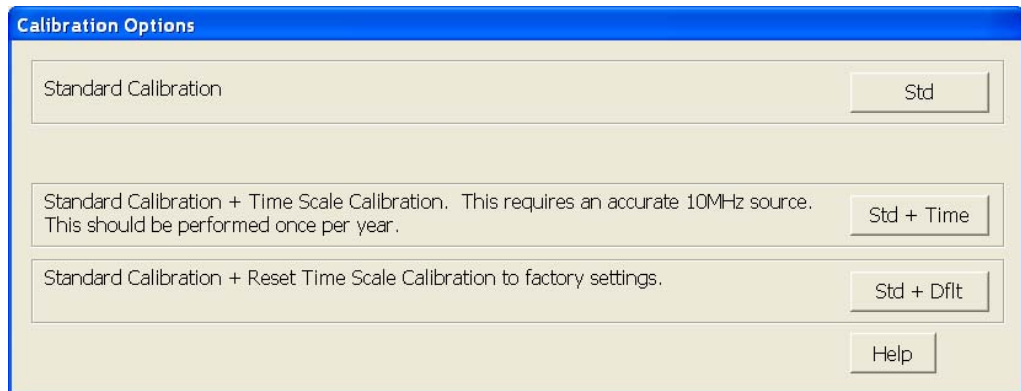

Figure 27 Time Scale Calibration Dialog box
- d During the calibration of channel 1, if you are prompted to perform a Time Scale Calibration, as shown in Figure 27 below.